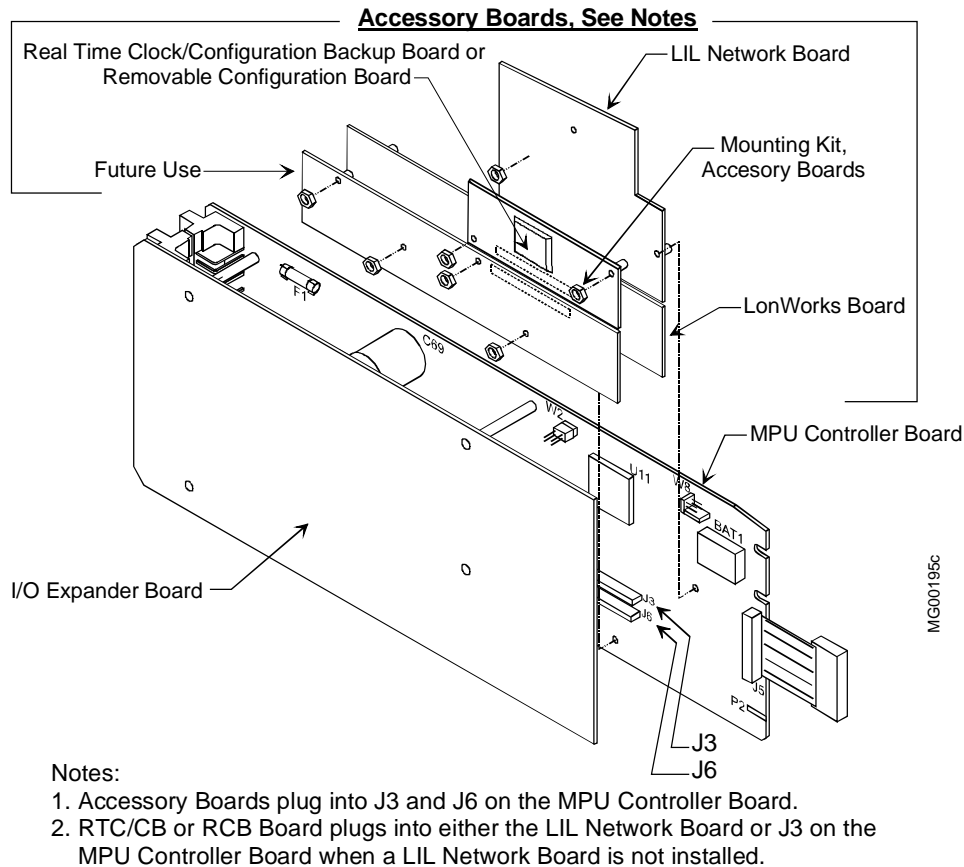

Figure 11-4 Accessory Board Installation and Replacement
If board is to be replaced or added, as appropriate, remove the I/O Expander board (See Section 11.5.4) and accessory boards (See Section 11.5.5 and Figure 11-4). Note the positions of all jumpers, particularly the Option 3 I/O Jumper. Refer to Sections 11.6 and 11.7 for jumper identification and location. Remove and retain the 4-wire Option 3 I/O Jumper for use during installation of a replacement board.
Refer to Figure 11-4 for board location and assembly hardware; the RCB and RTC/CB board mount in the same location and use the same hardware. The board typically mounts on and electrically connects to either a LIL Network board or an Ethernet board. If either of these boards is not installed, the RTC/CB board will mount directly on and electrically connect to the MPU Controller.
2. The MPU Controller board may have several attached boards secured by spacers and screws. Refer to Figure 11-4 for board location and fasteners. Refer to the board comments above for jumpering and other information before attaching a board to the MPU Controller board.